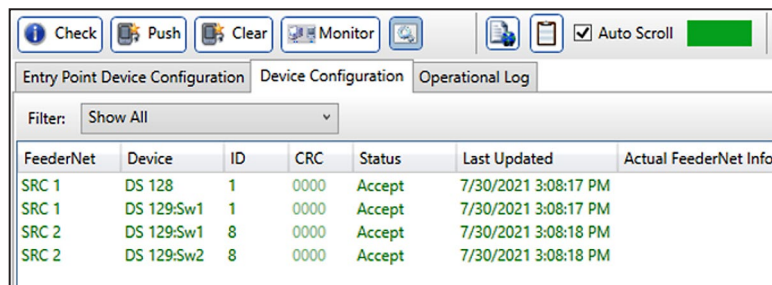

Figure 16. The Device Configuration tab setpoint files accepted.
- STEP 4.** Go to the **Device Configuration** tab and verify all devices have accepted their setpoint files. See Figure 16.